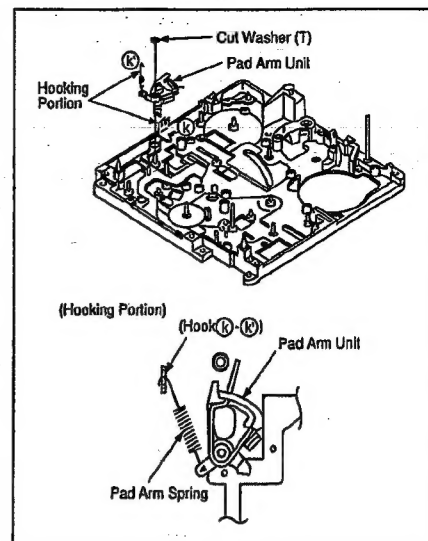

Fig. M28
15. Pad Arm Fig. M28 Unhook the hooking portion (k') of the Pad Arm Spring.